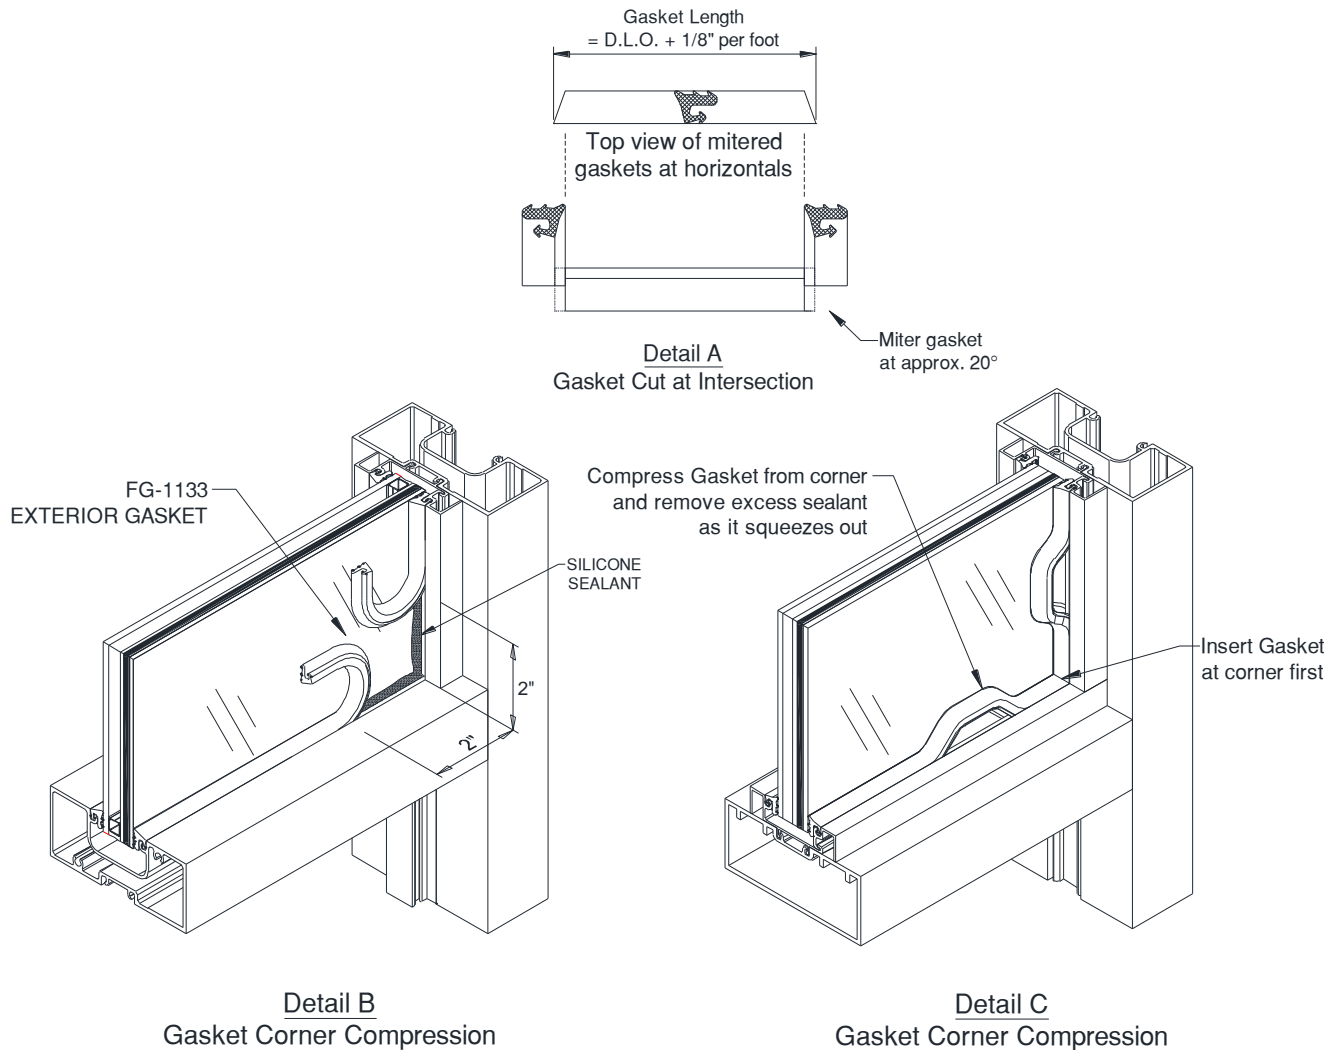

Figure 37: ArmorDefend™ Interior Gasket Installation at Transom
- 11.2.2.7 Once stops are in place install **FG-1133** gasket on interior of transom as shown in Figure 37, Detail B. Gasket should be installed in corners and the middle first and then worked into pocket in sections starting at center and moving towards the corners.
- 11.2.2.9 Apply sealant and push gasket into reglet, compressing from the corner first, as shown in in *Figure 37, Detail C*. Clean excess from corner immediately.